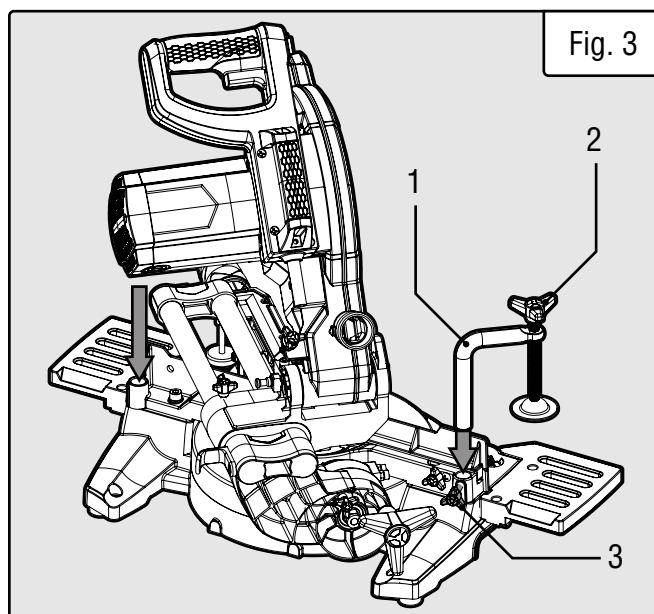

Fig. 3
1. Locate the hole for the clamp on the left or right side of the miter saw behind the fence (Fig. 3 - arrows). Insert the clamp assembly (Fig. 3 - 1) into the hole on the desired side.
2. Secure the clamp into place by tightening the clamp lock knob (Fig. 3 - 3). NOTE: Check that the clamp won't interfere with the blade travel before operating the saw.
3. Rotate the clamp height knob (Fig. 3 - 2) to move it up or down as needed to securing the workpiece. Check that the workpiece is secure and does not wobble before cutting.